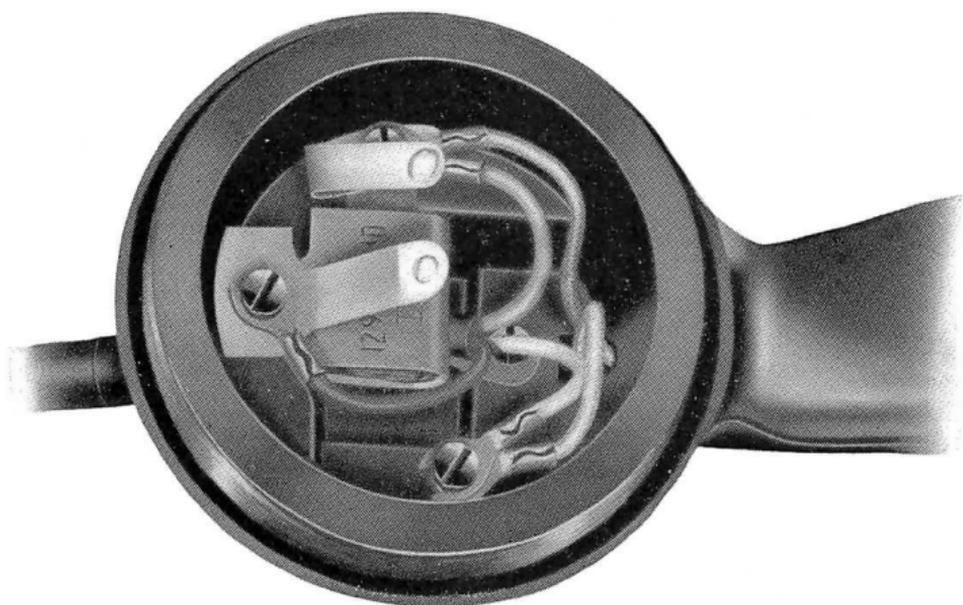

Fig. 1—F-Type Handset with 129 Condenser
1.04 E- and F-type handset used at stations subject to radio interference shall be equipped with a 129-type condenser bridged across the transmitter as shown in Fig. 1. To equip an F-type handset with the 129F condenser the outer terminal of the condenser (with eyelet) is assembled under mounting screw of the center contact spring. The inner terminal is placed under the outer contact spring.